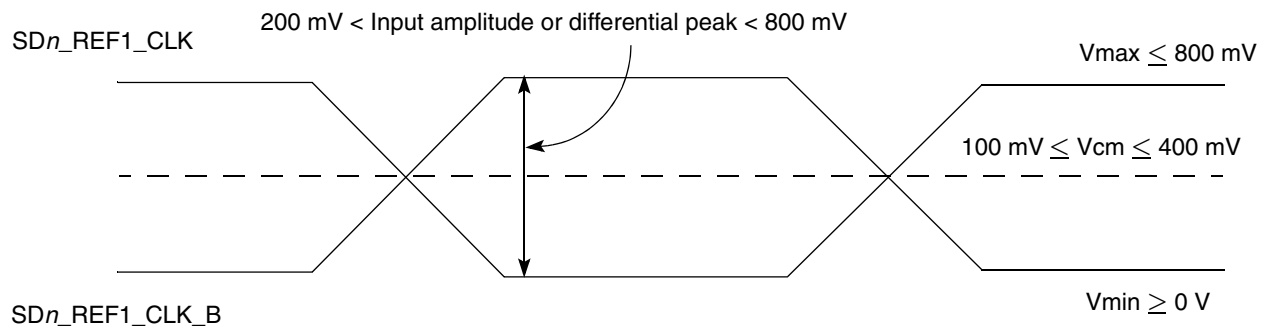

Figure 34. Differential reference clock input DC requirements (external DC-coupled)
- For an external DC-coupled connection, as described in Section 2.23.2.2, “SerDes reference clock receiver characteristics,” the maximum average current requirements sets the requirement for average voltage (common mode voltage) as between 100 mV and 400 mV. Figure 34 shows the SerDes reference clock input requirement for DC-coupled connection scheme.